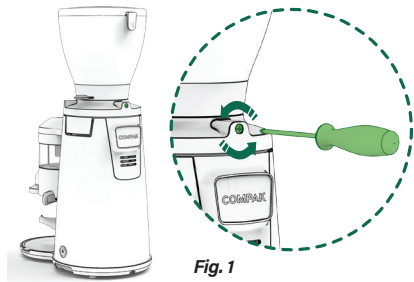

Fig. 1
11.3.1 Turn off the grinder by making sure the main power switch (13) is on the **OFF** position. Disconnect the plug from the power source. Loosen the hopper security screw (3) using a Phillips head screw driver as seen in (Fig. 1).